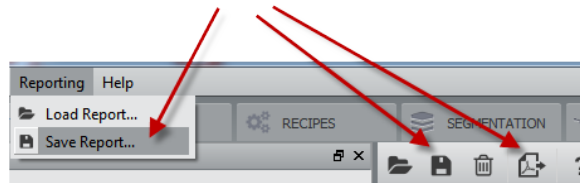

Figure 16.7: Saving or Exporting a Report
8. To remove a snapshot or a spreadsheet from the report, click on it and press *Delete*. The report can then be saved as an HTML page or exported to PDF (see Figure 16.7).